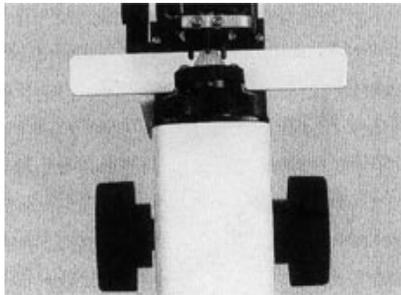

Fig. 11
3.9 Diopter measuring handwheel (Fig.11)